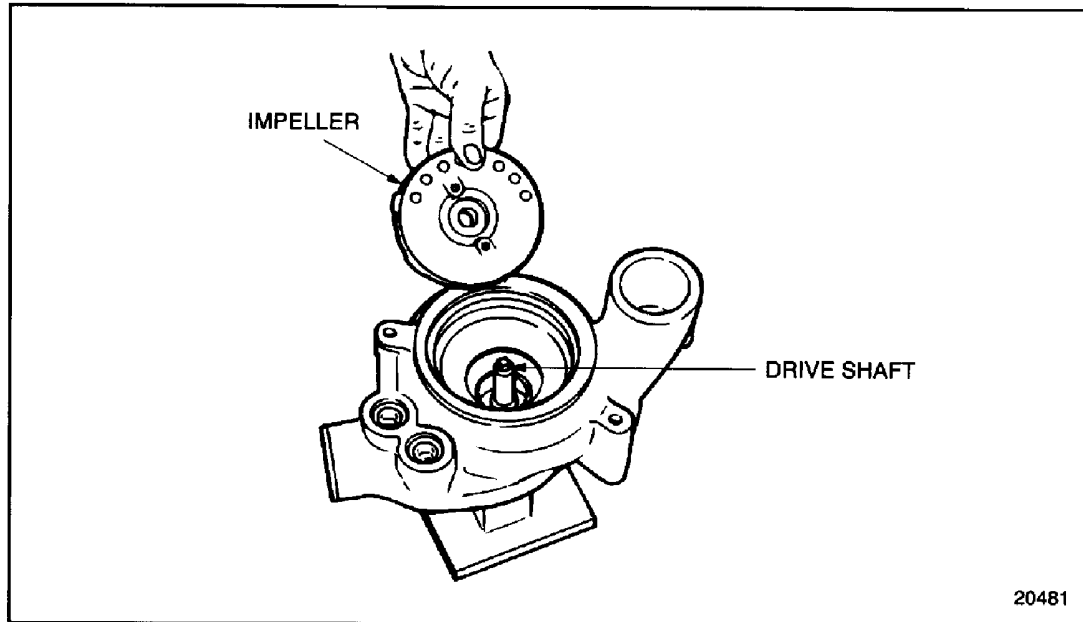

Figure 4-26 **Water Pump Impeller Installation**
19. With the water pump housing still housed in tool J 35988-2 , part of tool set J 35988-B, and located on a press bed, position the impeller over the square end of the drive shaft with the vanes of the impeller facing down. See Figure 4-26.